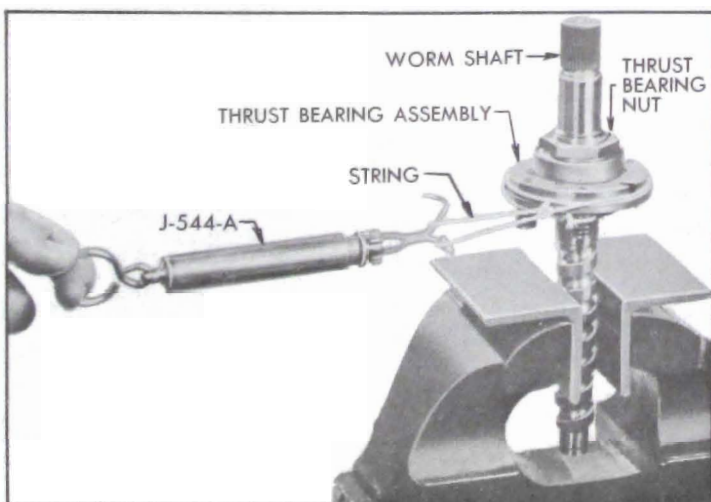

Figure 8-29—Checking Thrust Bearing Preload
6. Check for roughness by holding the worm stationary and rotating the center race. If the bearing is rough, replace thrust bearing assembly. Check the thrust bearing preload. This should be between  $\frac{3}{4}$  and 3 lbs. measured at the outer edge of the center bearing. To measure bearing preload, clamp the worm in a vise using soft jaws. Fasten a cord to one of the riveted centering springs and wind it around the center race. Attach the other end of the cord to Spring Scale J-544-A. Then slowly pull the other end of the scale and check the reading. If the preload is not within the limits, push the staked portion of the thrust bearing nut up out of the thread groove, being careful not to damage the thread, and remove the nut and discard. Use a new nut and adjust as necessary to obtain proper preload. After the proper preload has been obtained recheck bearing for roughness and stake the nut being careful not to move the nut when staking. Recheck the preload after staking. See Figure 8-29.